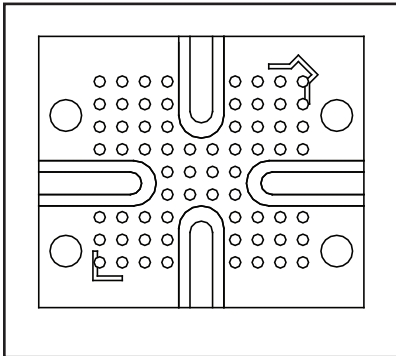
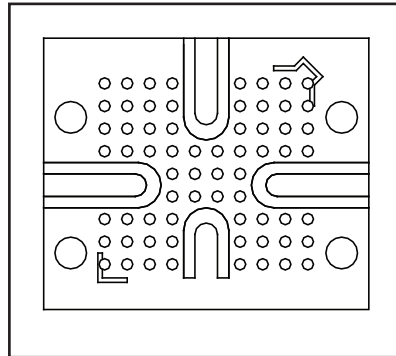
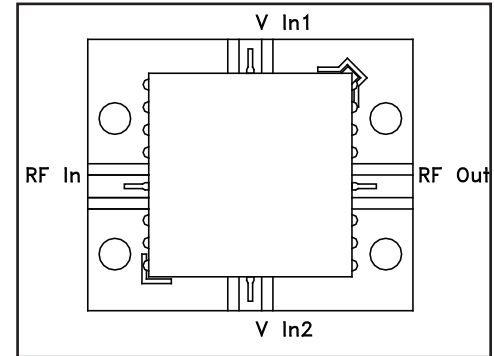

FIGURE 3A. Topside layout for four port.
FIGURE 3B. Topside layout for three port.
FIGURE 4. Topside with component in place (four port).
Figure 3A details the topside view for a four port mounting plane and Figure 3B shows a layout for a grounded component with three ports. Figure 4 shows a typical SMTO-8 and SMTO-8B component in place.
MIXER APPLICATION FIGURE 4
2) The second method uses a pure silver ribbon for the interface (Figure 4). The mixer trace is reflowed with solder alloy or is tin plated. The silver ribbon is then solder reflowed onto the mixer trace, a small stress relief is formed, and the other end of the silver ribbon is gap welded to the gold system trace.